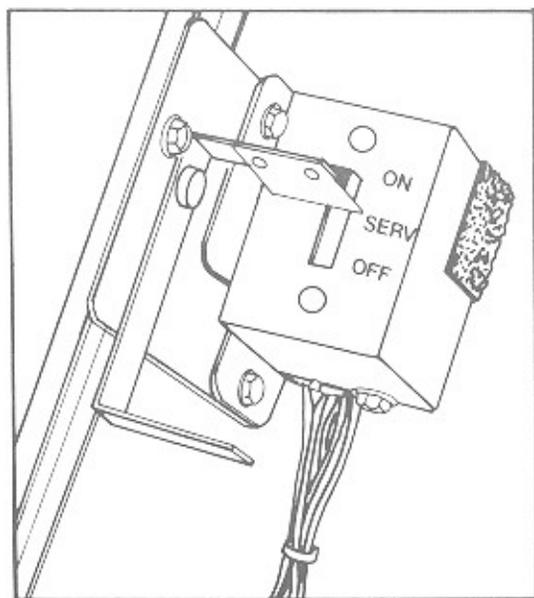

Figure 3-1. Service Switch
2. Move the SERVICE switch to the SERVICE position. (refer to figure 1-1 and figure 3-1)